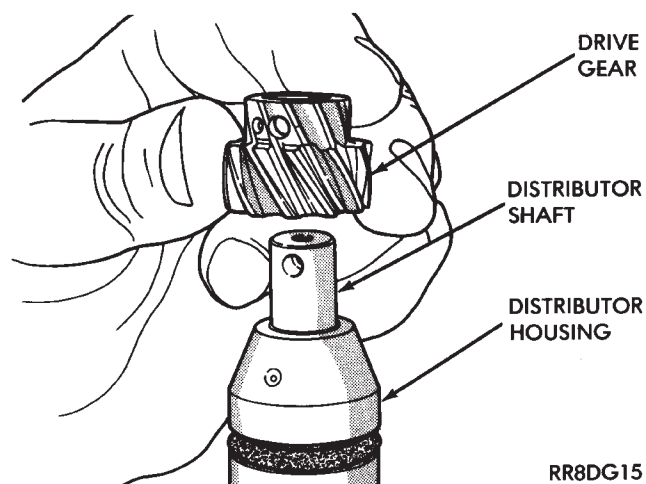

Fig. 35 Drive Gear
- (12) Remove distributor drive gear (Fig. 35).